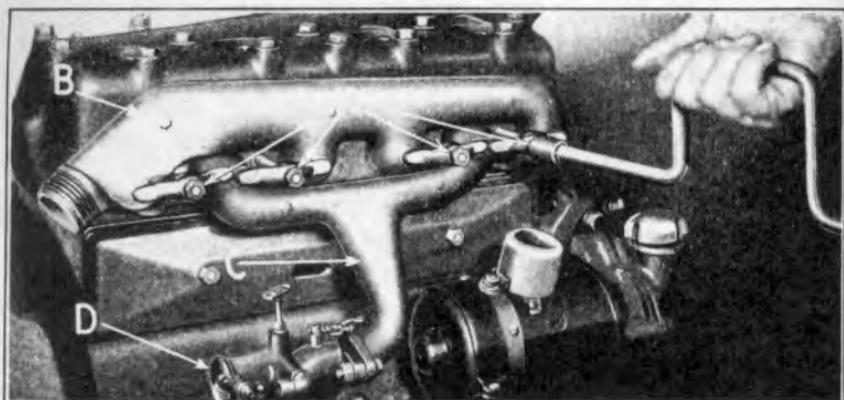

Fig. 129
- 200 Remove exhaust, and intake manifolds together with carburetor by running off the four manifold stud nuts (See "A" Fig. 129) and withdrawing clamps. Exhaust manifold "B" can then be removed and intake manifold "C" with carburetor "D" attached, lifted from cylinder block.